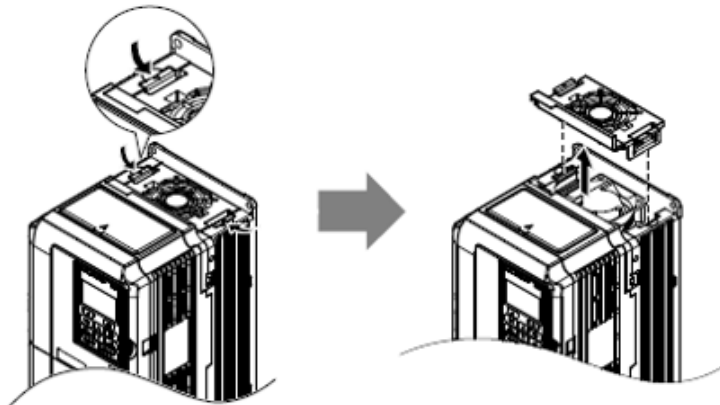

Figure 9-7 VFD Fan Removal
2. Depress the right and left sides of the fan cover tabs and pull upward. Remove the fan cover from the top of the drive per Figure 9.7, one (1) fan assembly shown, but the same procedure applies to two (2) fan assembly.